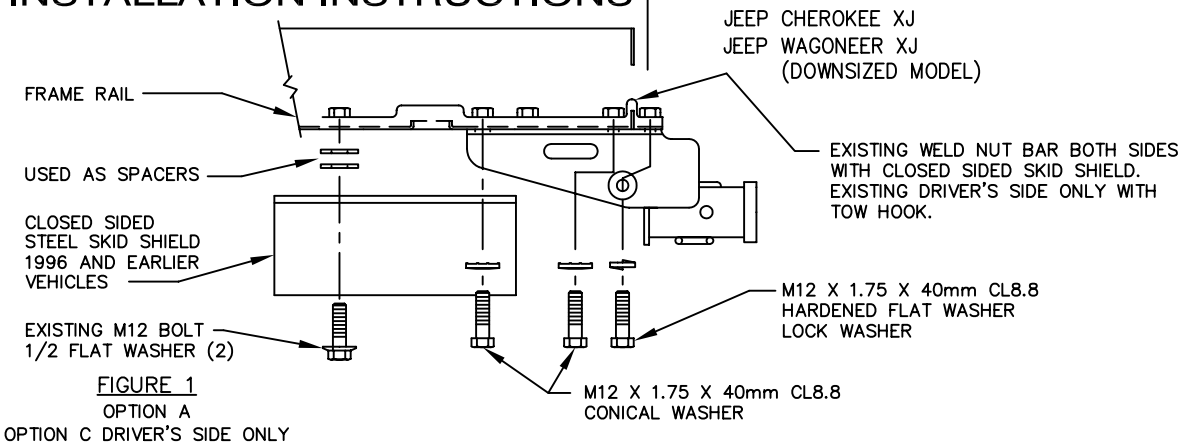

FIGURE 1
- OPTION A** - SEE FIGURE 1
- INSTALL THREE (3) M12 BOLTS WITH LOCK WASHERS PROVIDED (THE REARMOST ATTACHMENT HAS A HARDENED FLAT WASHER BETWEEN RECEIVER FLANGE AND LOCK WASHER), EACH SIDE AS SHOWN IN FIGURE 1. TIGHTEN FINGER TIGHT.
- AT THIS TIME, REMOVE FORWARD SKID SHIELD MOUNTING BOLTS. PLACE TWO (2) 1/2" FLAT WASHERS AS SPACERS BETWEEN FRAME RAIL AND SKID SHIELD AND REINSTALL EXISTING M12 FASTENER.
OPTION C - SEE FIGURES 1 & 2
- REMOVE TOW HOOK AND TOW HOOK BRACKET, RETURN COMPONENTS TO VEHICLE OWNER. MOUNT DRIVER'S SIDE OF RECEIVER USING M12 BOLTS AS SHOWN IN FIGURE 1.